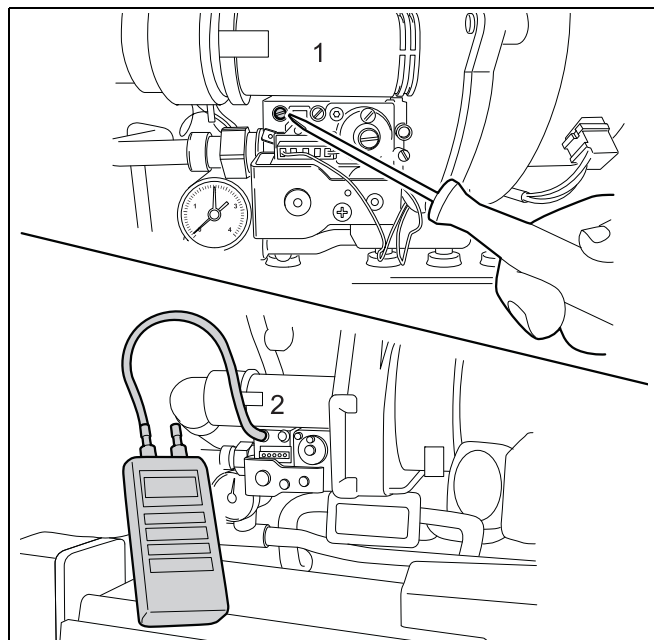

fig. 57 Measure the inlet gas pressure
- Open the screw plug on the testing nipple for the inlet gas pressure (see fig. 57, pos. 1) by two turns.
- Connect the measuring hose of the pressure gauge to the testing nipple (see fig. 57, pos. 2).